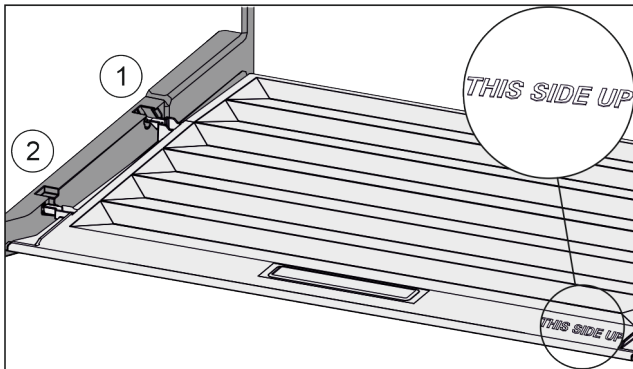

Fig. 85
- ▶ Insert the lip of the cover over the opening of the rear bracket Fig. 85 (1) and click into place Fig. 85 (2).